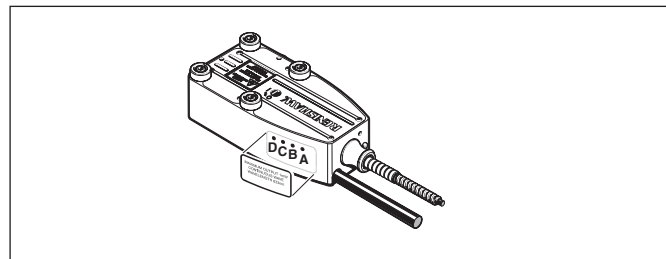

Figure 72 – Position of potentiometers on RLD head
- If you do not have 1 V signal strength, it can be adjusted using the two potentiometers located on the side of the detector head. The gain adjusters are the two holes A and B shown in Figures 72 and 73. **Take care when adjusting the potentiometer, as they are delicate electronic components.**